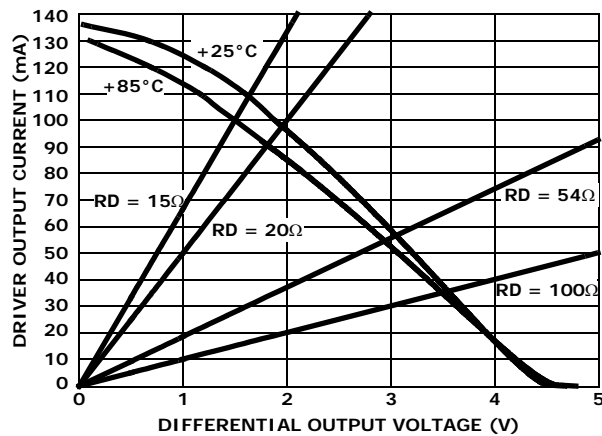

FIGURE 8. DRIVER OUTPUT CURRENT vs DIFFERENTIAL OUTPUT VOLTAGE
- See Figure 8 for more information, and for performance over-temperature.
Another advantage of the large V_{OD} is the ability to drive more than two bus terminations, which allows for utilizing the ISL315xE in "star" and other multi-terminated, "nonstandard" network topologies. Figure 8, details the transmitter's V_{OD} vs I_{OUT} characteristic, and includes load lines for six (20Ω) and eight (15Ω) 120Ω terminations. The figure shows that the driver typically delivers 1.65/1.5V into 6/8 terminations, even at the worst case temperature of $+85^\circ\text{C}$. The RS-485 standard requires a minimum 1.5V V_{OD} into two terminations, but the ISL315xE delivers RS-485 voltage levels with 3x to 4x the number of terminations.